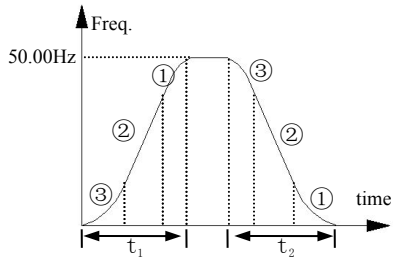

Fig. 7-2 S curve acc/dece
1:S curve acc/dece mode. output frequency raise or decline as the S curve: as fig.7-2.
S curve start interval time as fig.7-2③,output frequency changed slope increase slowly from zero.
S curve up interval time as fig.7-2②,output frequency changed slope is constant.
S curve end interval time as fig.7-2①,output frequency changed slope decrease slowly to zero.